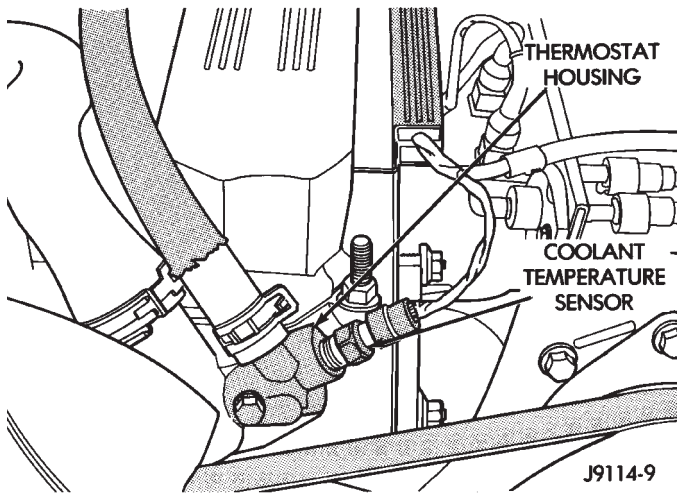

Fig. 25 Coolant Temperature Sensor—Typical
(22) Verify that wire harness connector is firmly connected to the coolant temperature sensor (Fig. 25).